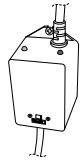

FIGURE 8
20. Once power is activated you can check the ballast (12), Figure 8, to see if the ClearRay unit is functioning; it has two LED indicator lights the green indicating incoming power flow and the red indicating the system is properly working.